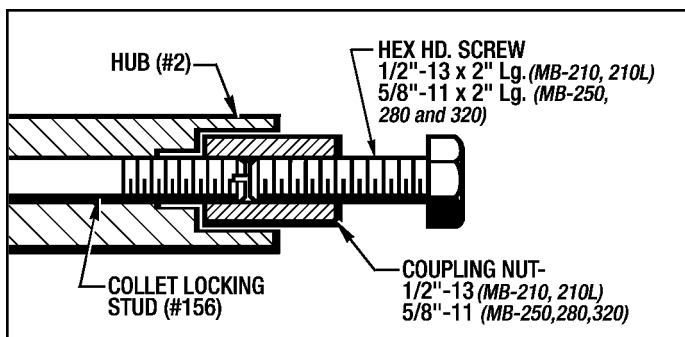

Figure 7.3 - Removing Collet Locking Stud (#156)
**Method #2** - After the Nut (#136) and Lockwasher (#168) has been removed, install a Coupling Nut to the end of the Collet Locking Stud (#156) and then a Hex Hd. Screw to lock the Coupling Nut to the Collet Locking Stud (#156) as shown in Figure 7.3. You